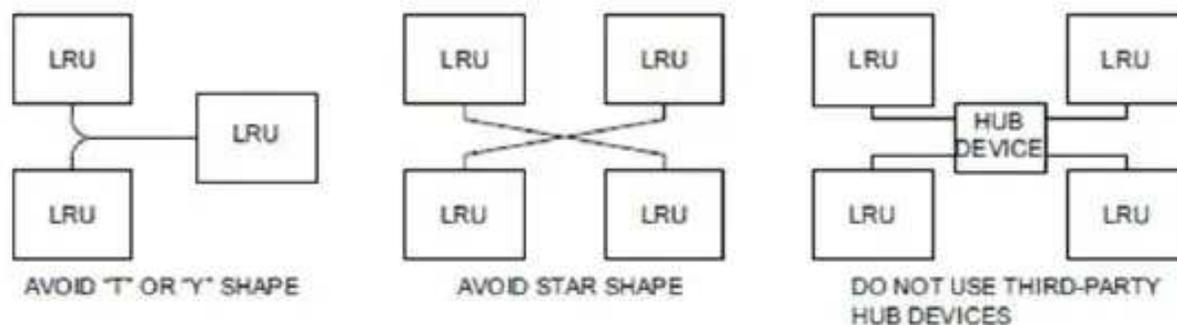

Figure 3-5 – Incorrect CAN Wiring Examples
- The CAN bus backbone must be a single linear path with exactly two distinct ends. CAN bus connections must be “daisy-chained” from device to device. Avoid “star” and “Y” topologies, and do not use a hub device (Figure 3-5).